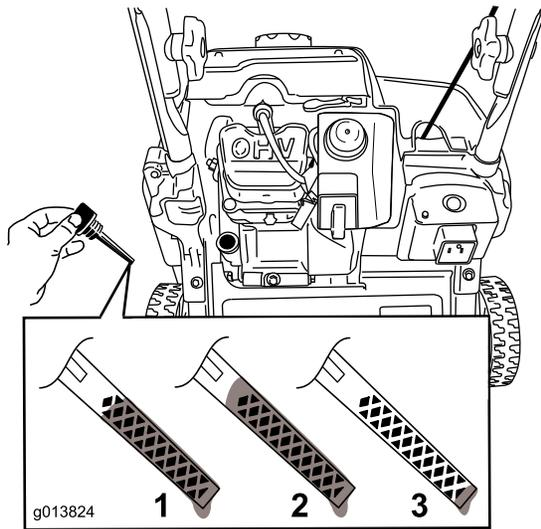

Figure 27
**Note:** To determine the proper oil level on the dipstick, refer to Figure 27.
**Note:** Fill the engine crankcase with oil until the dipstick indicates that the engine-oil level is correct as shown in Figure 27. If you overfill the engine with oil, remove the excess oil from the drain plug into an oil-drain pan.